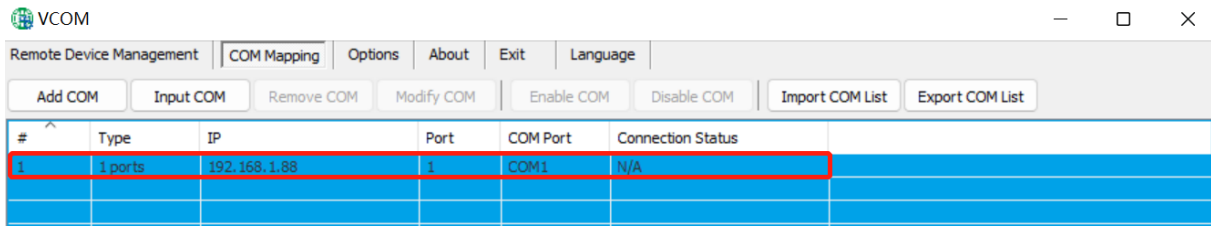

Figure 9
- After that, the following interface will pop up, that is, the corresponding virtual serial port is created, as shown in Figure 9